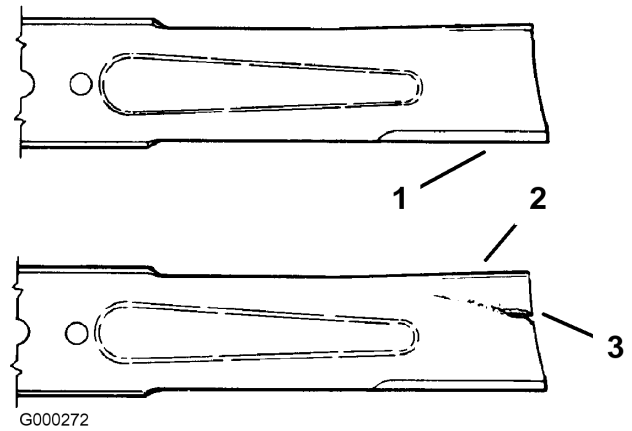

Figure 45
1. Inspect the cutting edges (Figure 45). If the edges are not sharp or have nicks, remove and sharpen the blades. Refer to Sharpening the Blades.
2. Inspect the blades, especially the curved area (Figure 45). If you notice any damage, wear, or a slot forming in this area (item 3 in Figure 45), immediately install a new blade.